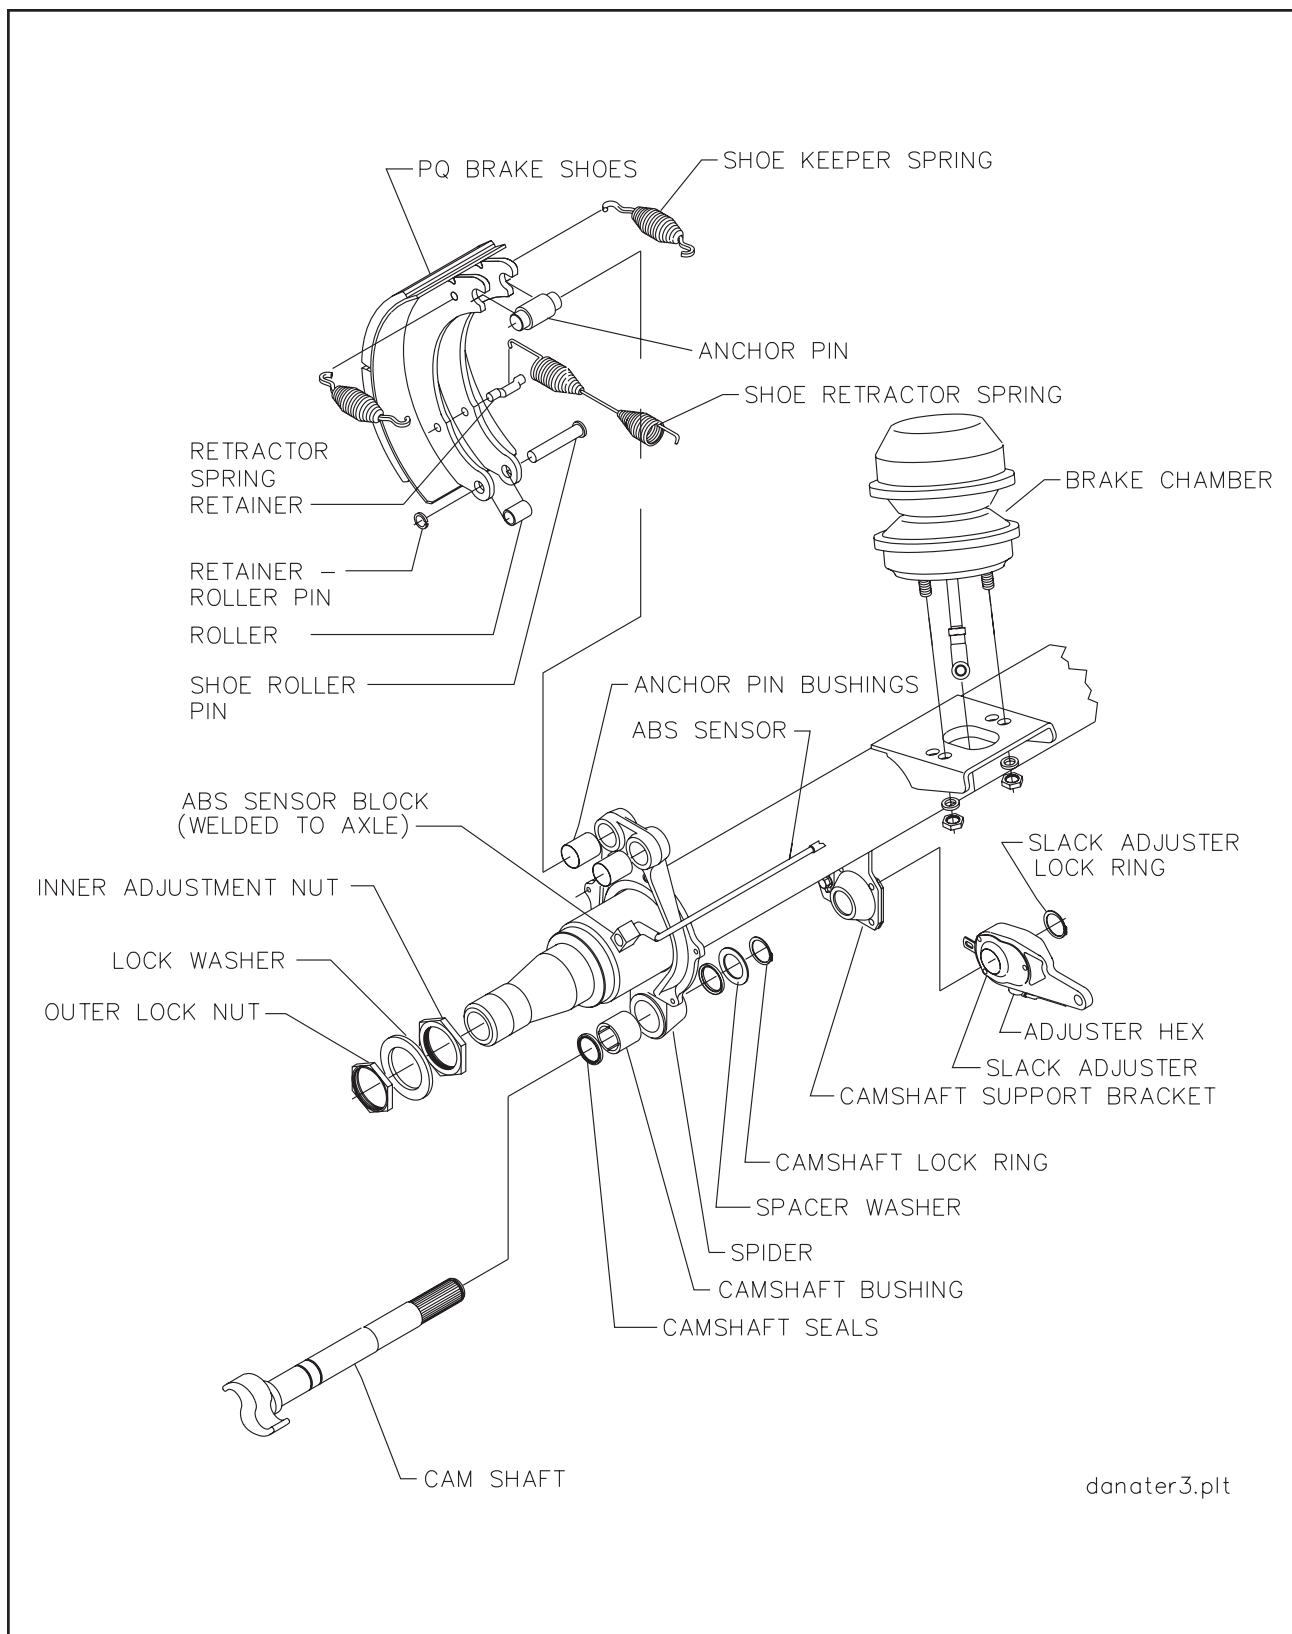

Figure 4-13 Axle and Brake Assembly
b. Disassembly for 12-1/4" X 7-1/2" Brakes (See Figure 4-13)
c. Reassembly for 12-1/4" X 7-1/2" Brakes (See Figure 4-13)
- d. Disassembly for 16-1/2" x 7" Brakes (See Figure 4-13).**
e. Reassembly for 16-1/2 x 7" Brakes (See Figure 4-13).